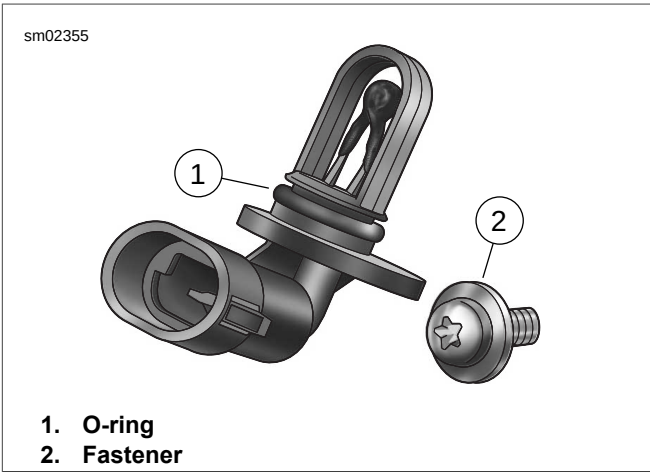

Figure 4-16. Intake Air Temperature Sensor
1. See Figure 4-16. Inspect O-ring (1) in groove of intake air temperature sensor for cuts, tears or signs of deterioration. Install **new** O-ring if necessary.
3. See Figure 4-16. Install fastener (2) and tighten to 15-20 in-lbs (1.7-2.3 Nm).